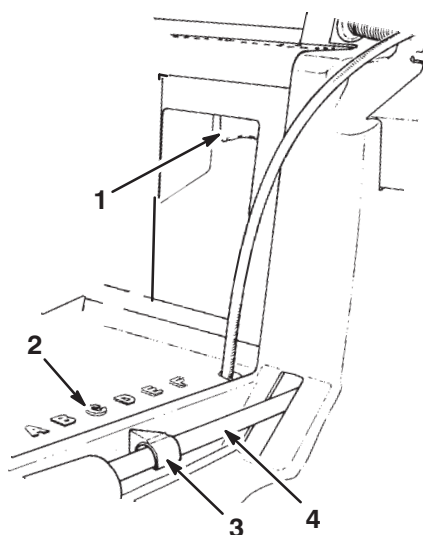

Figure 14
2. Use one or two fingers to squeeze the height-of-cut adjustment lever (Fig. 14).